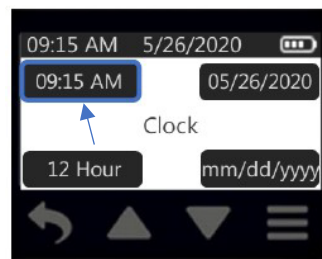

Figure 49. Time Display
3. Touch the current displayed time (Figure 49).